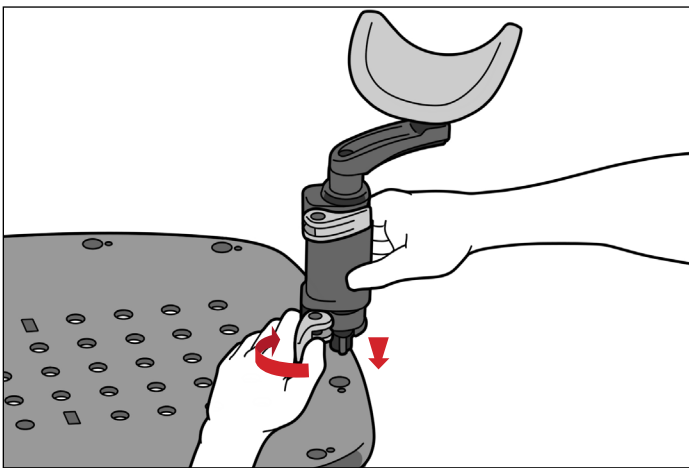

FIG. 15
1. To attach the Wrist Support, align both pegs on the bottom of the Wrist Support with the two corresponding holes in the Patient Surface. (Fig. 15)